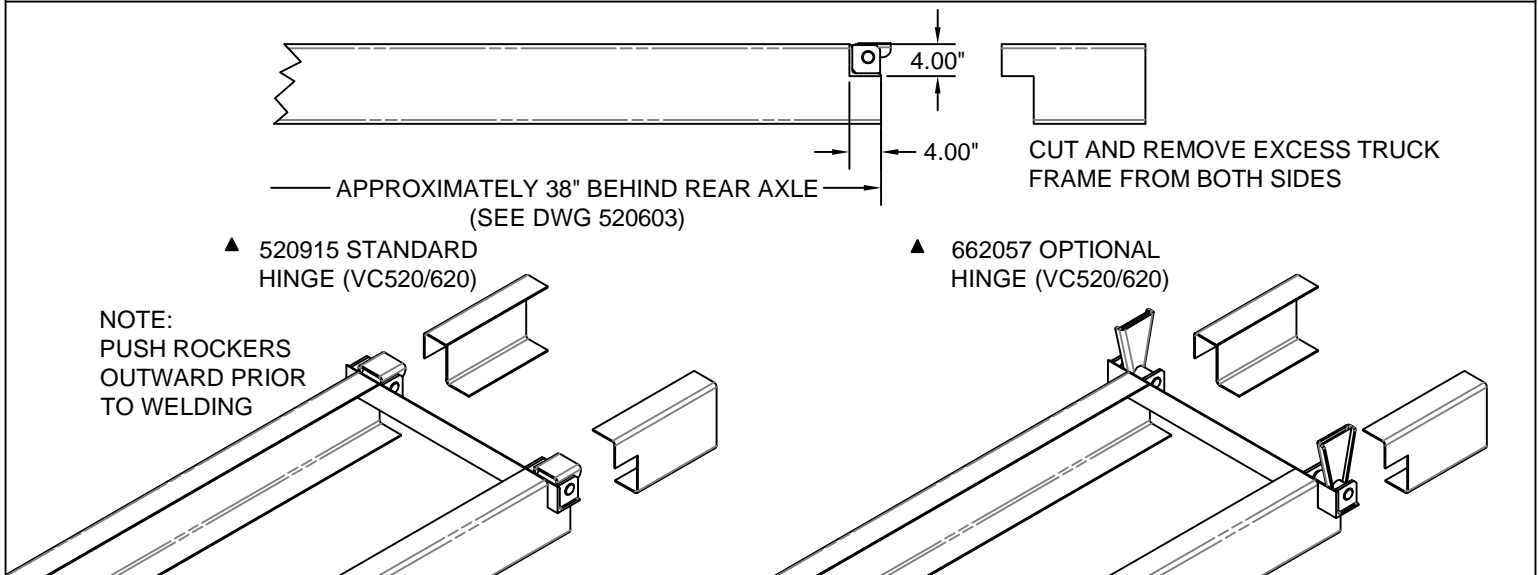

Figure 2 - Frame Modification and Rear Hinge Attachment
- B. Cut a 90° slot in each side of the frame as shown in Figure 2 below.
With the body aligned with the truck frame, push the hinge rockers outward as far as possible. Ensure that the longitudinal rails are sitting flat on the rockers, weld the body longitudinals to rockers (DWG 520604 Figure 2). See installation DWG 662861 for more information regarding the mounting of the rear hinge rockers to the body.
Place the rear hinge brackets in the vertical position (DWG 520604 Figure 2). Weld and/or bolt the brackets to the longitudinals. If bolted, mark and drill each bracket four [4] places (17/32" holes) and secure the brackets to the longitudinals using eight [8] 1/2"-13 x 1-1/2" Grade 8 hex head cap screws, eight [8] 1/2" lock washers, and eight [8] 1/2"-13 hex nuts. See installation DWG 662861 for more information regarding the mounting of the rear hinge brackets to the body.